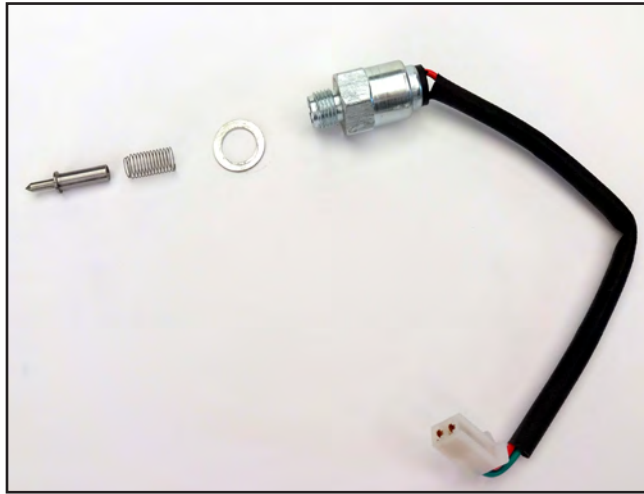

Figure 40
1. Assemble solenoid (Figure 40):